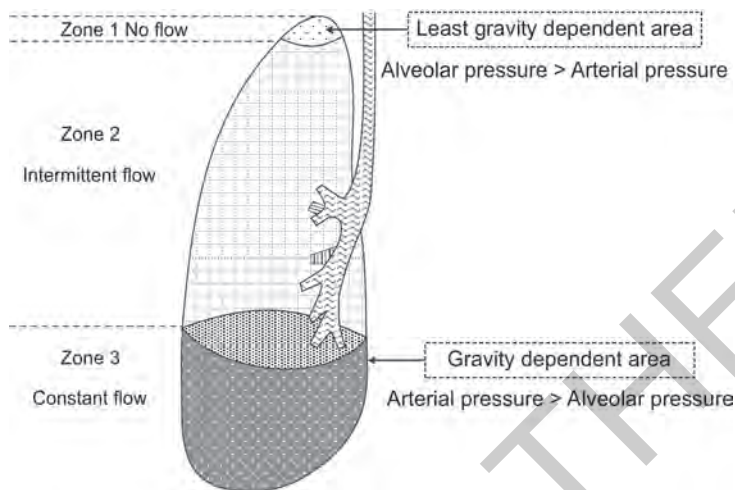

Figure 3.9: The three zone model illustrating the effects of gravity on pulmonary perfusion
b. *Effects of gravity on pulmonary perfusion: Figure 3.9*